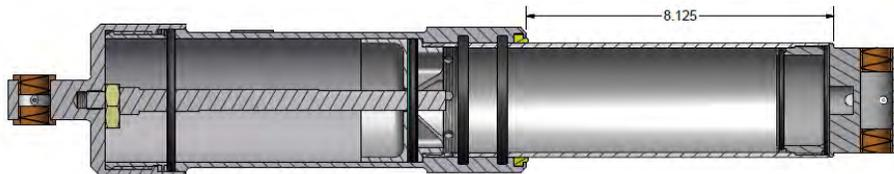

Figure 1
3. Measure both Main Gear Shock struts per figure 1 to indicate if piston has loosened internally. See table below for limits and appropriate maintenance action if beyond limits.